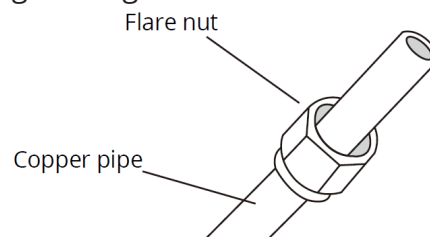

Fig. 6.3
3. Place flare nuts on both ends of pipe. Make sure they are facing in the right direction, because you cannot put them on or change their direction after flaring. See Fig. 6.3.